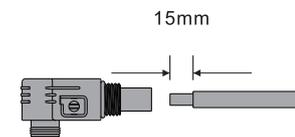

Figure 4.2-3 Pass the cable through the terminal
**Step1:** Pass the cable through the terminal, as shown in Figure 4.2-3.